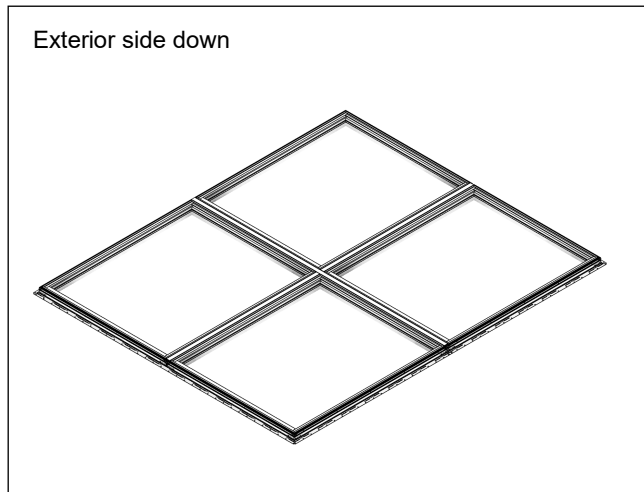

Figure 45
1. Set up assembly area (clean flat area) setting the units exterior down to begin. Inspect units for any damage. Set one or all units, if room allows, of the factory assemblies exterior side down. See Figure 45.